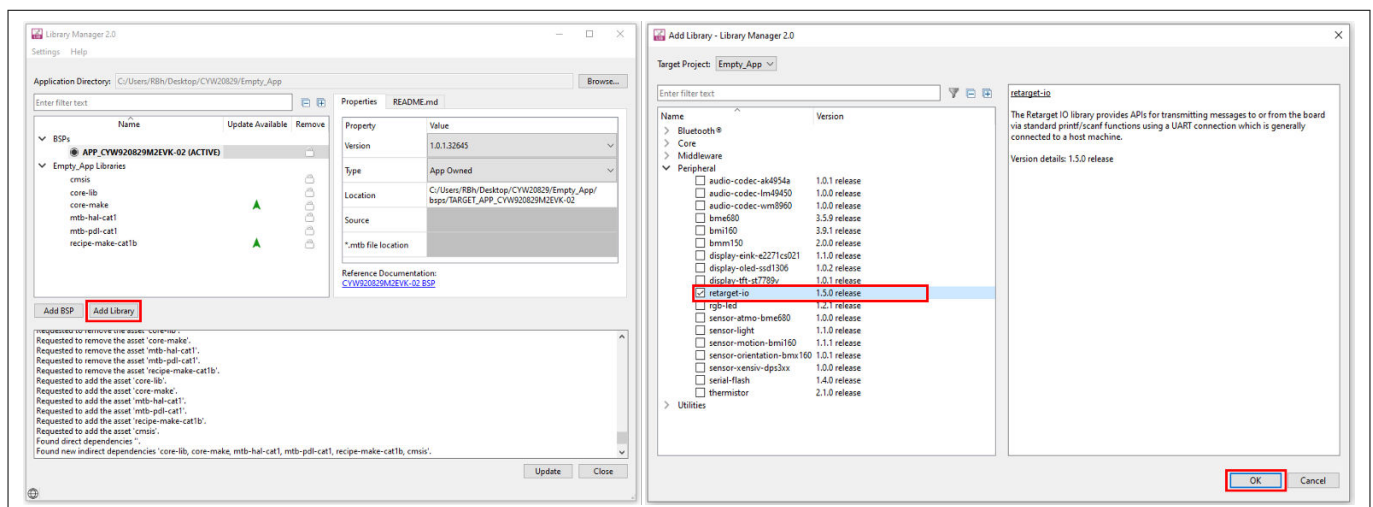

Figure 16 Add the retarget-io middleware
- In this step, you will add the retarget-io middleware to redirect standard input and output streams to the UART configured by the BSP. The initialization of the middleware will be done in main.c. After clicking on **Add Library**, select **Peripheral** > **retarget-io** (see Figure 16 for this option)